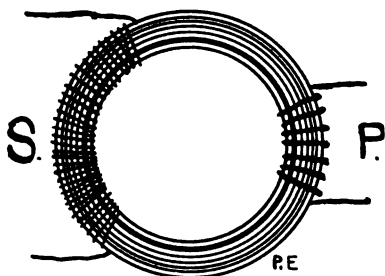
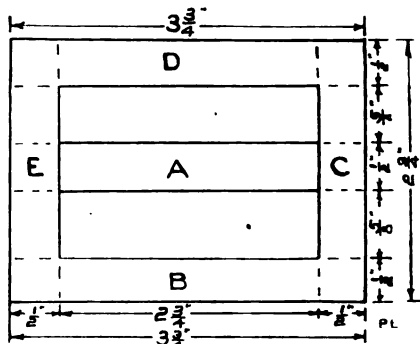

Fig. 1
Fig. 2
In its simplest form a transformer is very much like an ordinary induction coil. (See Fig. 1). The core is generally in the form of a ring or a modified ring, so that the magnetic lines of force can have a continuous iron path. Referring to the figure. Suppose the primary  $P$
*The Core.*—The foundation of the transformer is the core. It would be difficult to wind a large number of turns of wire on a round core as illustrated in Fig. 1, so a modified closed core is adopted. The core to be used in this little transformer is known as a modified H core. In this type of core the two windings are wound on the middle leg  $a$ , Fig. 2, and then surrounded with an iron shell,  $b, c, d, e$ .